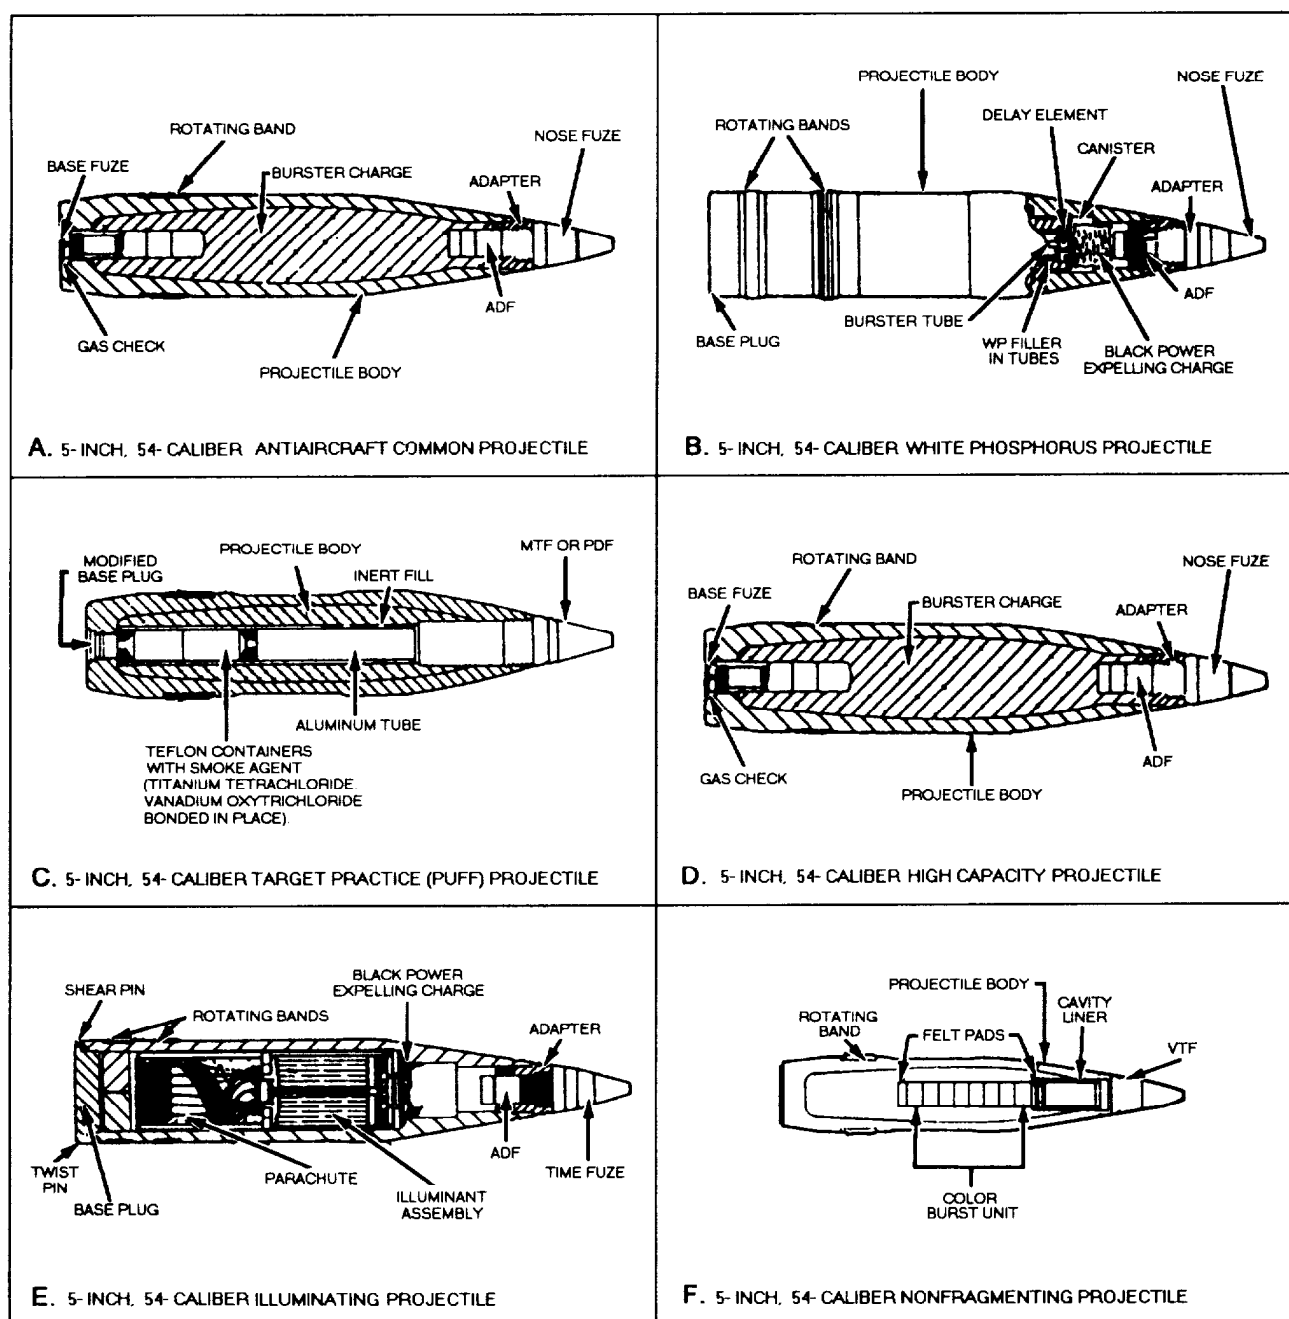

Figure 6-3.—Common projectile types.
Projectiles are also classified by their tactical purpose. The following are descriptions of some of the common projectile types (fig. 6-3).
ANTIAIRCRAFT COMMON (AAC).—Antiaircraft common projectiles are dual-purpose projectiles combining most of the qualities of the AA-type with the strength necessary to penetrate mild-steel plate (fig. 6-3, view A). However, AAC projectiles do not have the penetrating ability of common projectiles. The type of fuzing will depend on the use. Fuze threads are provided in the nose and in the base. AAC projectiles are normally equipped with a mechanical time fuze (MTF) and an auxiliary detonating fuze (ADF). Dual-purpose action is accomplished by a time setting for air burst or by setting MTFs on “safe” or for a time longer than flight-to-target to permit the base detonating fuze (BDF) (delay) to function for penetration. By substituting a point detonating fuze (PDF) for the MTF, you can convert these projectiles to high-capacity for surface burst.
CHEMICAL.—Chemical projectiles may be loaded with a toxic, harassing, or smoke-producing agent. Of the smoke agents, white phosphorous (WP) is the most frequently used. WP projectiles (fig. 6-3, view B) are designed to produce heavy smoke and, secondarily, an incendiary effect. The small WP containers are expelled and then scattered by a delayed action burster charge that is ignited by a black powder expelling charge. Other chemical loads are dispersed in a similar manner.
PUFF.—Puff projectiles (fig. 6-3, view C) are nonexplosive projectiles used as practice (spotting) rounds. They are designed to produce dense smoke clouds approximating those of high-explosive rounds.
Large HC projectiles (fig. 6-3, view D) are provided with an auxiliary booster to supplement the booster charge in the nose of the main charge. With threads in both the nose and base, HC projectiles may receive a variety of fuzes or plugs to accomplish different tactical purposes. An adapter ring (or rings) is provided on the nose end of most HC projectiles to allow installation of point detonating fuses (PDFs) or nose plug and auxiliary detonating fuses (ADFs) with different size threads. An adapter is removed for larger fuzes. HC projectiles are
ILLUMINATING (ILLUM).— Illuminating projectiles (fig. 6-3, view E) are made with thin walls. Each contains a time fuze, an ADF, a small black powder expelling charge behind the ADF, an assembly consisting of a pyrotechnic star or candle with a parachute, and a lightly held base plug. The time fuze serves to ignite the expelling charge. Explosion of the
VARIABLE TIME NONFRAGMENTING (VT-NONFRAG).—VT-NONFRAG projectiles (fig. 6-3, view F) are loaded to avoid rupturing the body and spreading fragments when the fuze functions; however, sometimes the projectile ogive breaks up into low-velocity fragments. They are designed for use in anti-aircraft target practice, particularly against expensive drone targets, for observing the results of firing without frequent loss of the drones. These projectiles have fillers of epsom salts or other inert material to give the projectile the desired weight. A color-burst unit, consisting of pellets of black powder and a pyrotechnic mixture, is placed in a cavity drilled in the center of the inert filler. The color burst is ignited through the action of the nose fuze and the black-powder pellets. The color-burst unit may be one of several colors that exits through the fuze cavity and ruptured projectile.